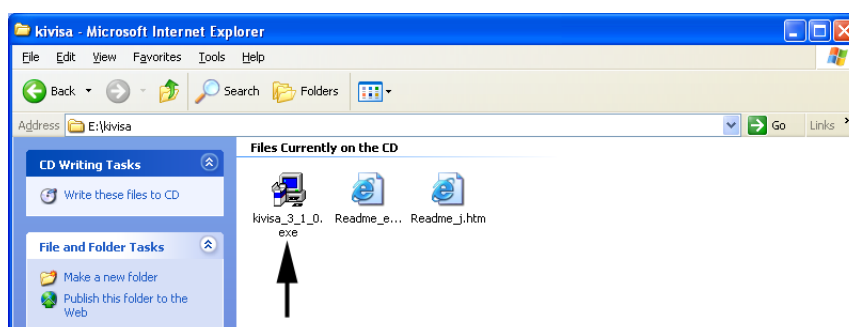

Fig.2-8 KI-VISA installation (Example of Kivisa\_3\_1\_0.exe)
- 17 Click the **Back** button in the browser window shown in Fig.2-8.